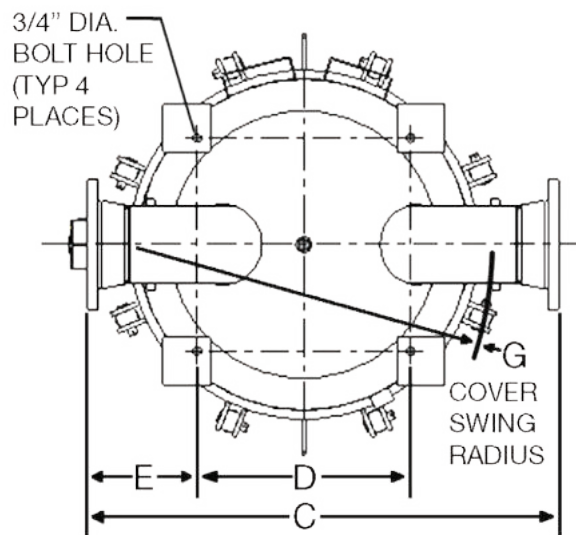

Figure 2
- Element qty required: DVF42 (27), DVF48 (33)
- Customer must supply the length for Dimension B referenced in Figure 2 on page 82.